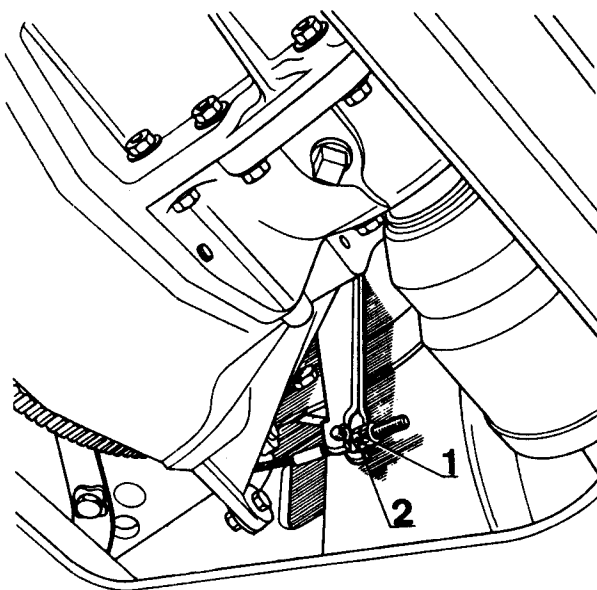

FIG. 5.3 CLUTCH CABLE TO RELEASE ARM CONNECTION
- 1 Loosen the locknut on the threaded end of the clutch operating cable. (References are to Fig 5.3)
- 2 Unscrew or screw up the adjusting nut (2) until there is a free movement of between 5/64 and 1/8 inch (2 to 3 mm) at the lowest point of the clutch operating lever arm. The measurement can most easily be made by holding a rule against the transmission case and noting the dimensions with the arm first lightly pushed inwards and then pulled outwards.